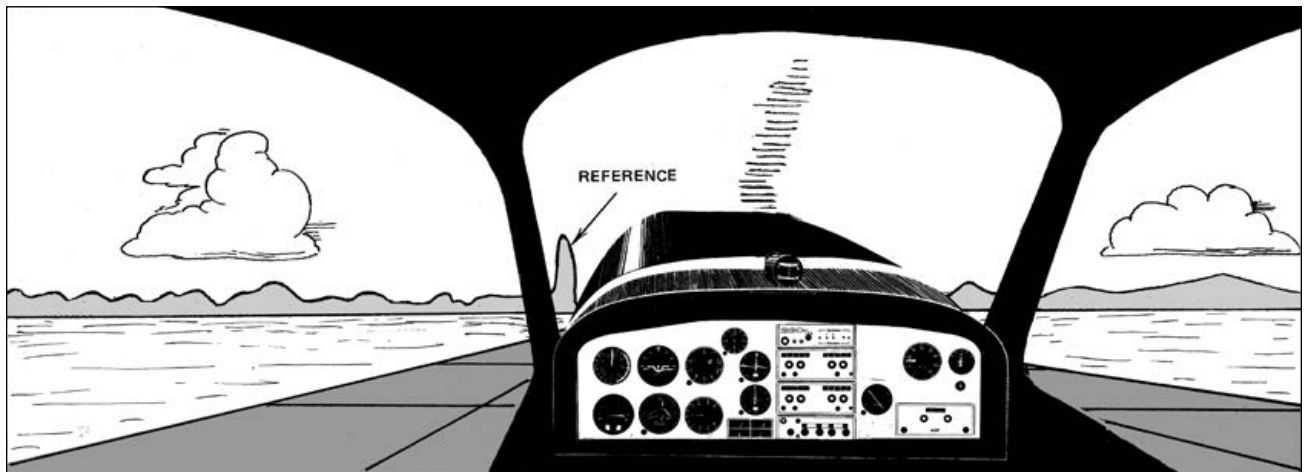

Figure 13-3. Pick an easy-to-recognize object to line up on.
You are trying to leave the ground as smoothly and efficiently as possible. Taxi onto the runway, first making sure no other planes are on final approach, and line up with some object such as a tree at the far end (Figure 13-3). In most planes with tailwheel-type landing gear, it is difficult to see over the nose in the three-point attitude, so you must look at your object alongside the nose for the first part of the takeoff run. You may ask, “What if there’s no tree?” Lacking a reference point at the end, watch the left side of the runway. The takeoff consists of three phases: (1) the initial or three-point position part of the run; (2) the roll on the front two wheels, in